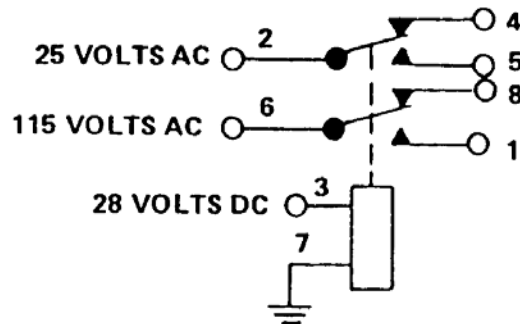

Figure R-1. Relay Checks
a. In many pieces of military equipment, the relay coil is connected to a 28 VDC source, as shown in Figure R-1. When the switch is closed, the path for current is complete and current should flow through the coil. To ensure that the switch and the connecting wires are good, a voltmeter can be connected to the coil connections (3 and 7). If 28V are indicated, the primary power is getting to the relay.
b. Even if the coil is getting its voltage, the relay may still malfunction. In Figure R-1, 115 VAC is present at the lower wiper (contact 6).
(1) If the relay energizes properly, 115 VAC should also be present at contact 1. If a voltmeter indicates that 115 VAC is not present at contact 1, then either the armature is not moving or there is a poor connection between switching contacts.
(2) Since the relay is supposed to be energized, the voltage at deenergized contact 8 should read zero volts on a voltmeter. A 115 VAC reading would indicate that the relay is not energizing correctly.
- b. A resistance check of the deenergizing contacts (2 and 4 or 6 and 8) in Figure R-1 should indicate continuity with the relay off and disconnected. A resistance check of the energized contacts (2 and 5 or 6 and 1 in Figure R-1) should indicate discontinuity (infinite resistance).